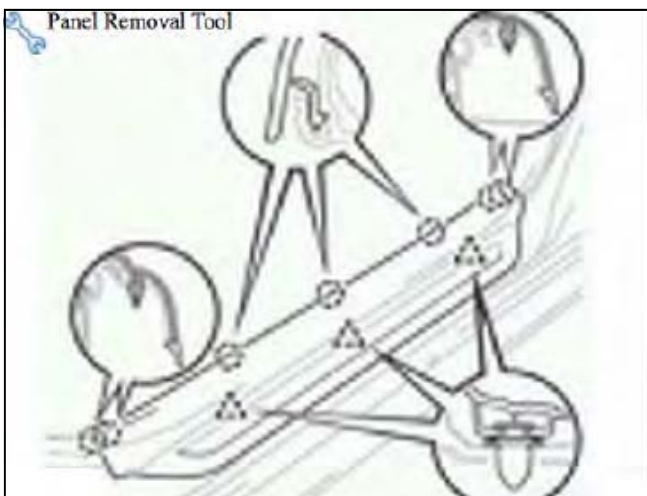

Figure 3
5. Remove driver side door scuff plate: Disengage with panel tool and remove. See Figure 3.